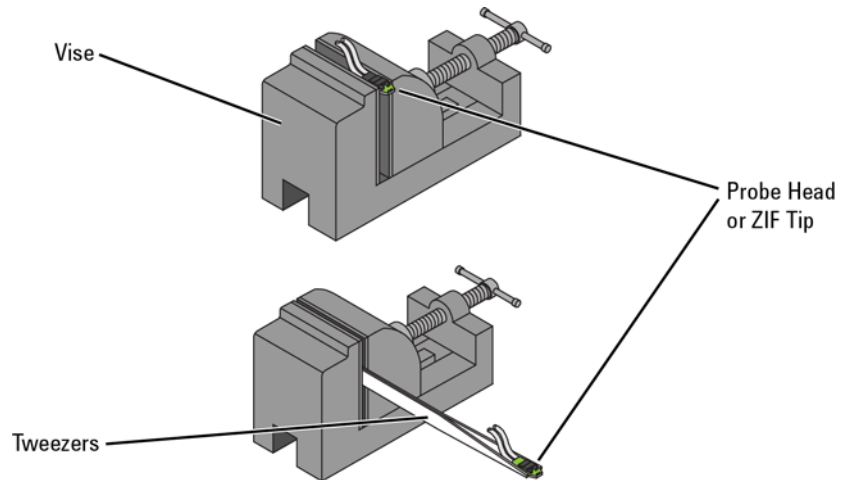

Figure 54 Clamping the Part
- 1 As shown in Figure 54, clamp the probe head or ZIF tip in a vise. Tweezers can be used to hold the probe head or ZIF tip away from